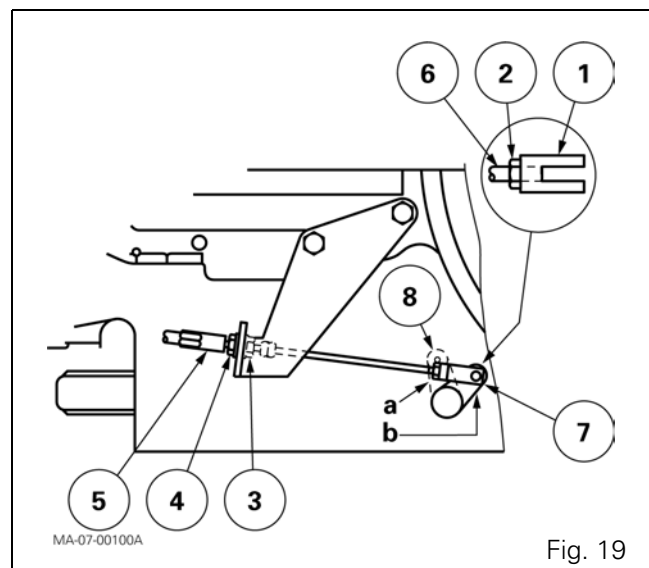

Fig. 19
110. Place the link (8) in "clutched" position "a" (Fig. 19) and ensure that it is correctly locked.
111. Screw clevis (1) flush with the threaded part of cable (6) (Fig. 19).